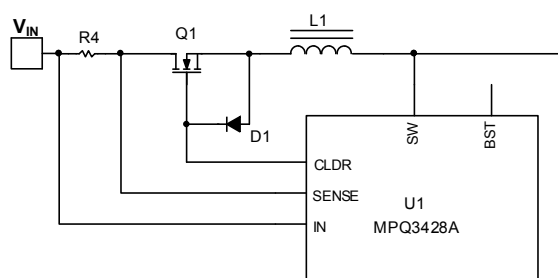

Figure 4: Gate Protection Diode for High Output Voltage Condition
3. SOA: The MOSFET should survive when conducting a current pulse that has a high level of V_{CL} (mV) / R_{SENSE} (mΩ) and lasts for C_{SS} (nF) $\times$ 0.7 (V) / 7 (μA) + 0.5ms.
4. Gate-to-source voltage rating: The positive gate-to-source voltage rating should be greater than 5.5V, while the negative voltage rating should be greater than the value of the output voltage. If the output voltage is too high and the MOSFET gate-to-source rating cannot meet the requirement, a diode from the source to the gate of the disconnecting MOSFET is recommended (see Figure 4).